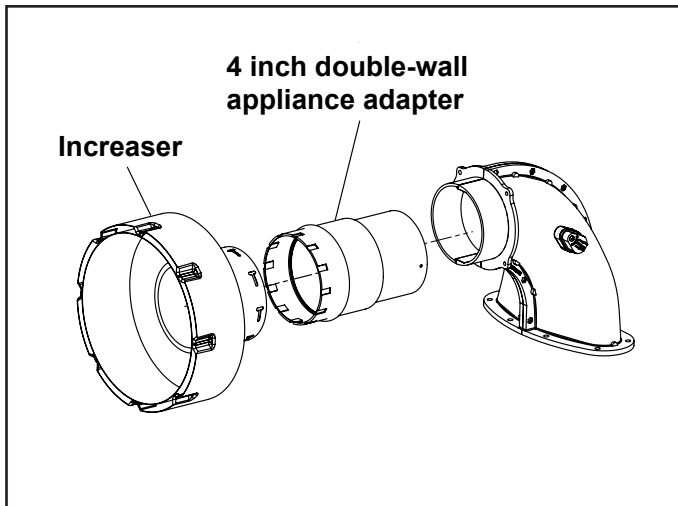

Figure 6. Category I Installation Configuration
3. **Category I:** Install a 4 inch double-wall appliance adapter and an inserter to meet the vent size requirements per Table 2. (See Figure 6.)